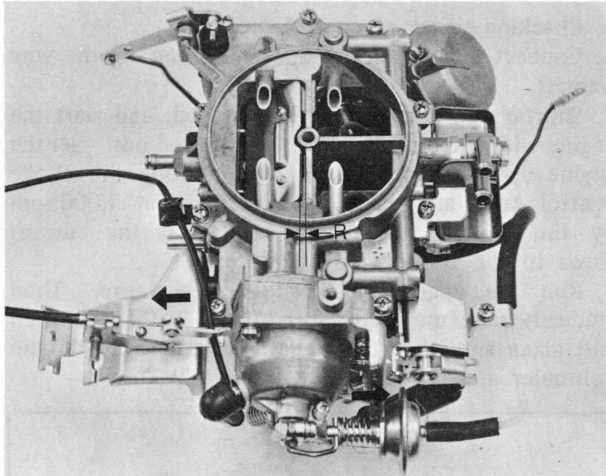

Fig. 4-11 Adjusting bimetal spring
2. Push the diaphragm plunger in fully and keep its position by wire as shown in Fig. 4-11.
3. Check the choke valve clearance (R) as shown in Fig. 4-11.
4. If the clearance (R) is not within specifications, first loosen (A) then turn (B) to adjust the clearance (R).